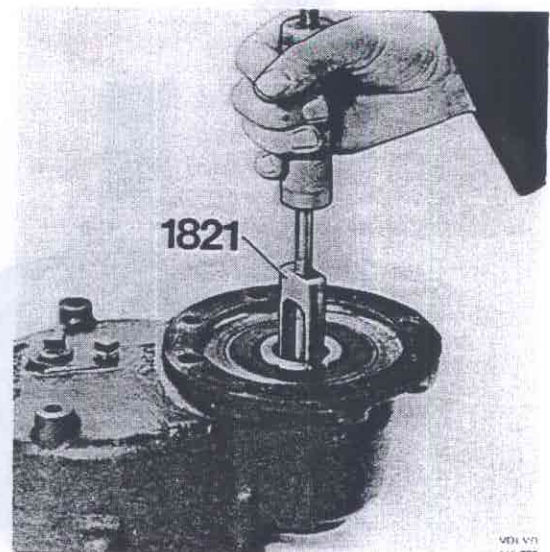

Fig. 46-114. Removing the wear ring
4. Remove the sealing wear ring with 1821, Fig. 46-114.